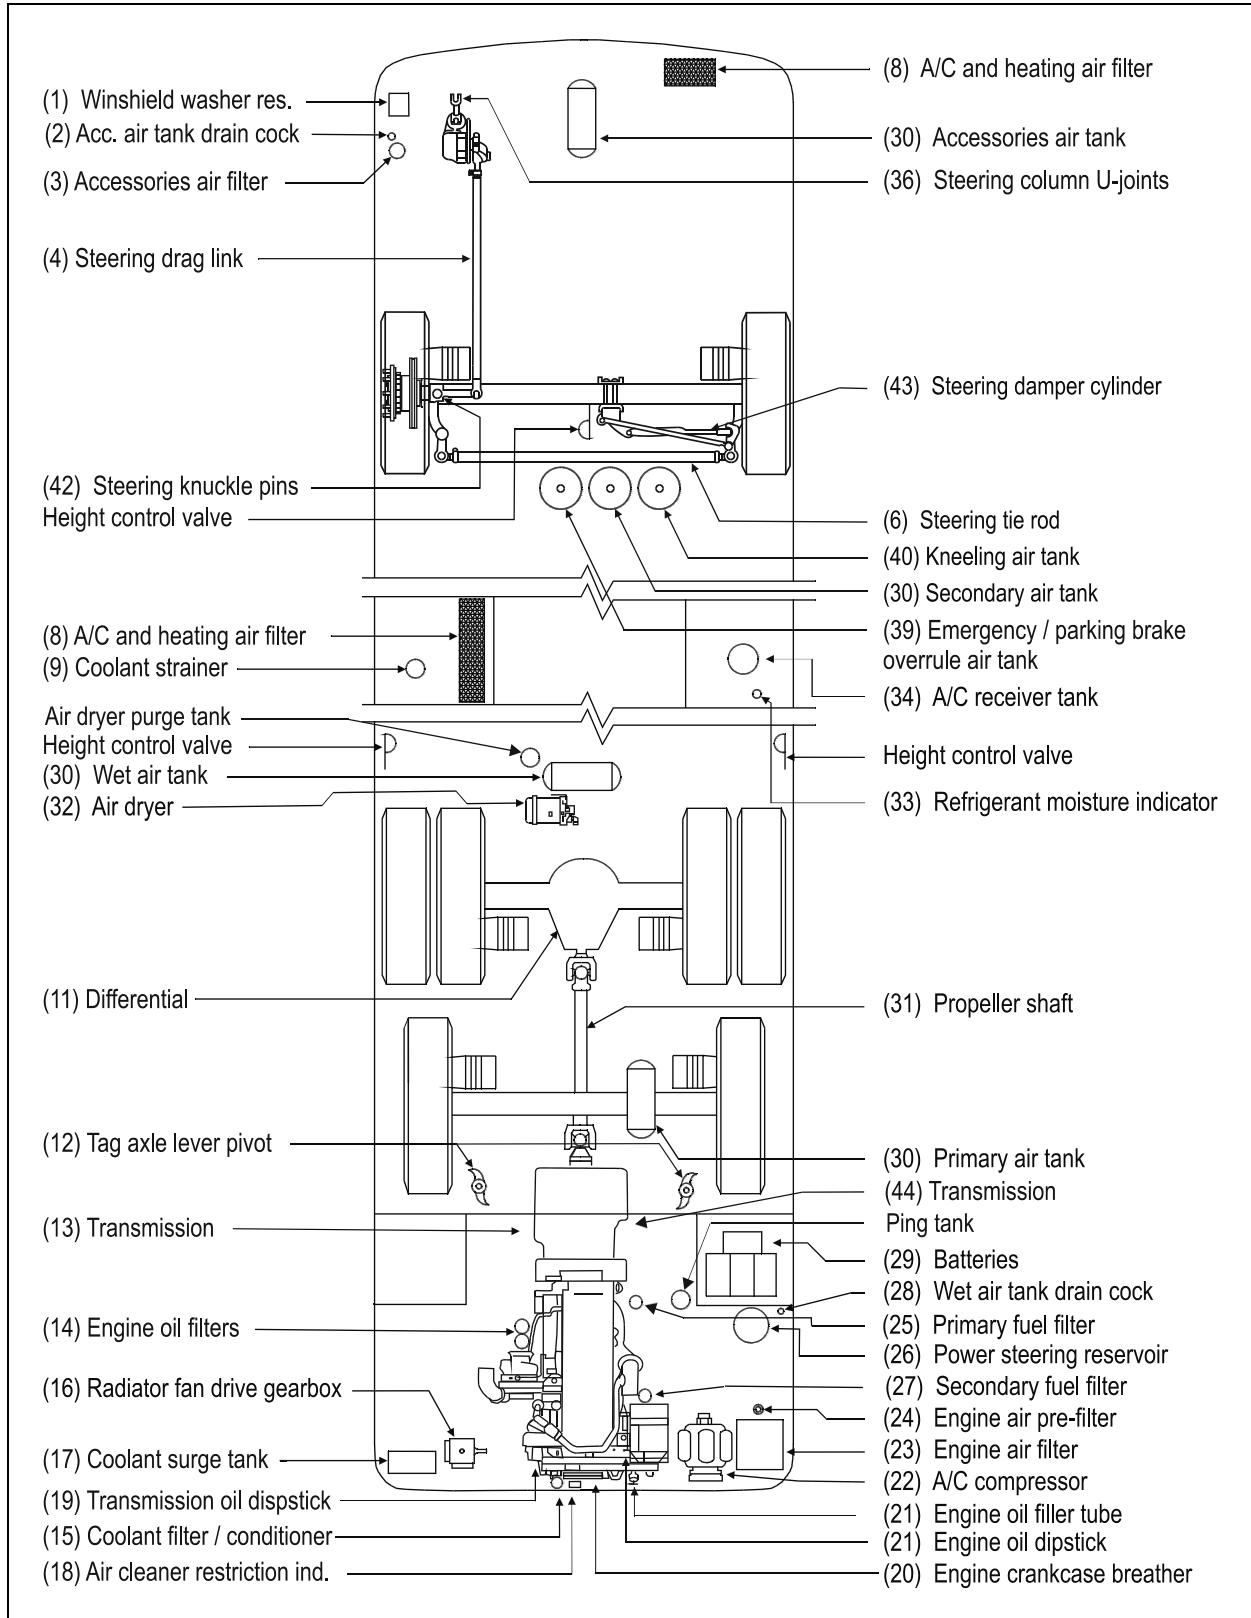

FIGURE 2: LUBRICATION AND SERVICING POINTS ON I-BEAM FRONT SUSPENSION VEHICLES (TYPICAL)
- FIGURE 2: LUBRICATION AND SERVICING POINTS ON I-BEAM FRONT SUSPENSION VEHICLES (TYPICAL) 5
◆ Item numbers refer to figures 2 and 3.